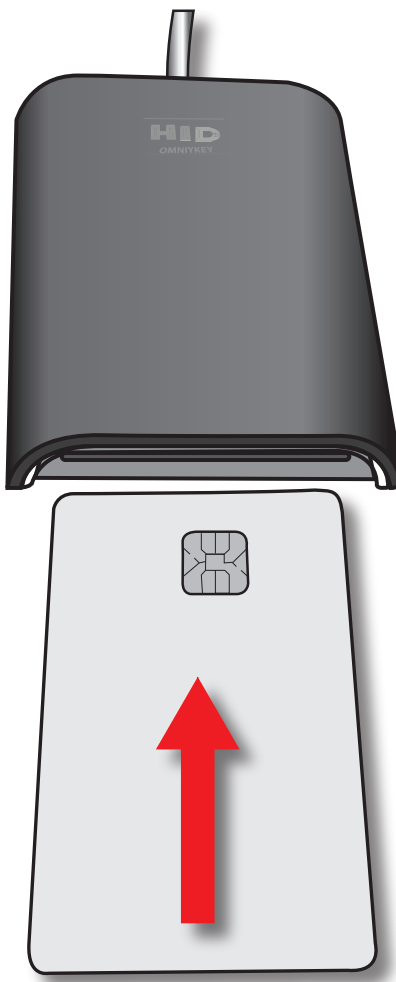

Figure 47. Insert the SmartCard into the card reader/writer.
6. Insert the card into the USB card reader (see Figure 47). Keep the gold square facing up. You can see the readers logo and the gold square at the same time.